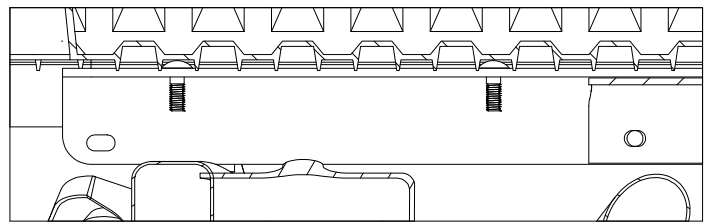

Figure C4: Cutaway view of area under the truck bed.
**NOTE:** When rotating the cross members into an upright position the two carriage bolts installed on top of the cross member will pass between the ribs on the bottom of the bed. Once upright the cross member will no longer be able to slide side to side. The cross members must be centered correctly between the bed rails for the carriage bolts to be in the correct position, see Figure C4.